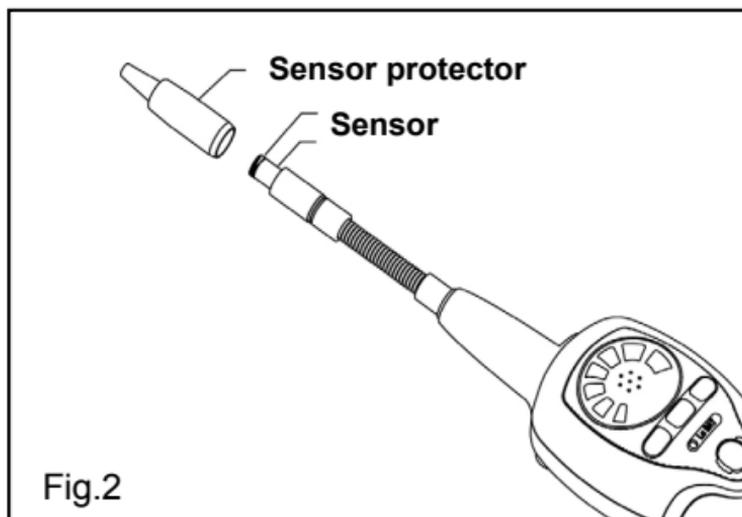

Fig.2
- (1) Remove cone cap cover from the tip of snake tube.
- (2) Pull out old sensor and insert the new sensor into the plug ( see below fig.2).
- (3) Seal the cap cover over the plug.